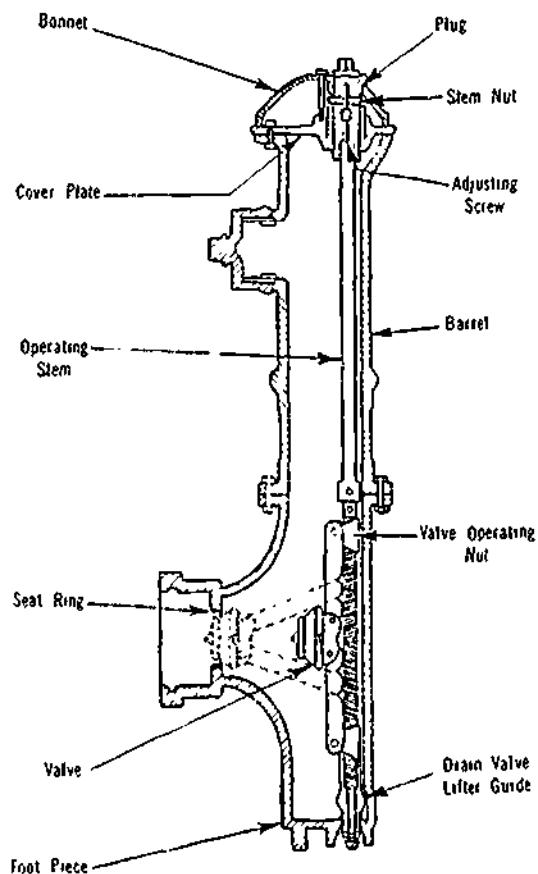

Figure 28-4. Knuckle-Joint Hydrant
c) To disassemble a knuckle-joint type of hydrant (Figure 28-4) shut off the water, open the hydrant side and unbolt and lift off the bonnet. Unbolt the cover plate and remove it and the stem-nut assembly as a unit. Re-assemble in reverse order, taking care to hold the drain valve snugly against the back of the barrel while lowering so that it fits into the opening in the base of the foot-piece.